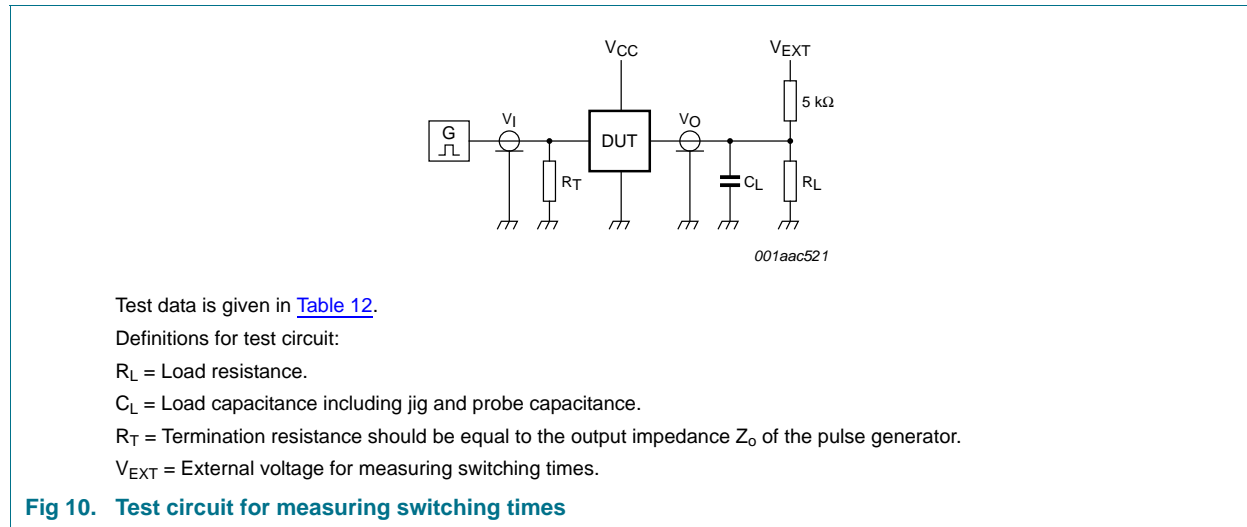

Fig 10. Test circuit for measuring switching times
**Table 9. Dynamic characteristics ...continued**Voltages are referenced to GND (ground = 0 V); for test circuit see Figure 10
Voltages are referenced to GND (ground = 0 V); for test circuit see Figure 10